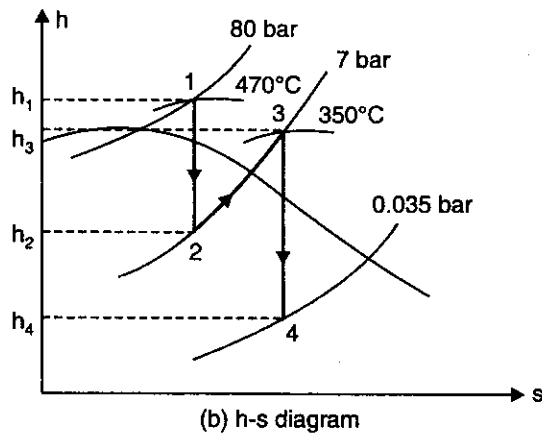

Fig. 3.153
**Solution.** The schematic arrangement is the steam power plant of shown in Fig. 3.153 (a) and the processes are represented on  $h$ - $s$  diagram as shown in Fig. 3.153 (b).